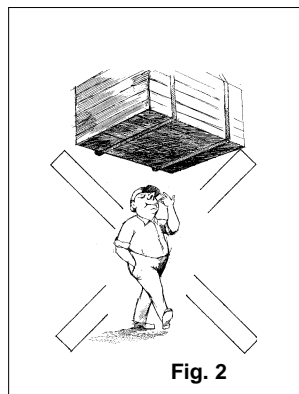

Fig. 2
- Do not allow personnel to pass under a suspended load (see Fig. 2)